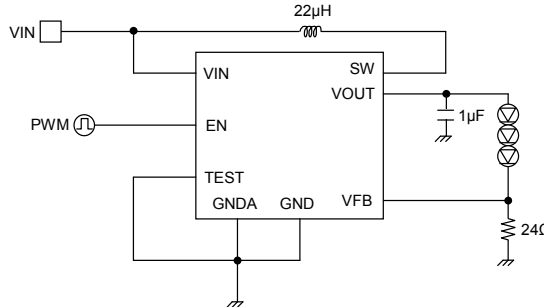

Fig.25 The brightness adjustment example of EN terminal by PWM (fPWM = 100 ~ 300Hz)
(1) PWM brightness adjustment is done by giving PWM signal to EN as shown in Fig.25.